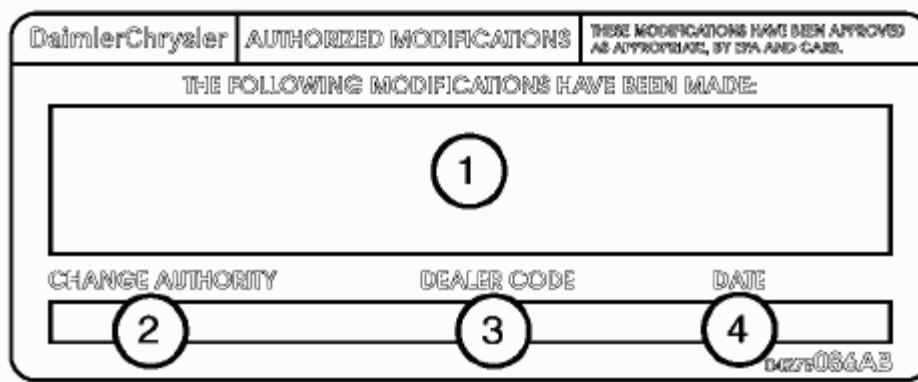

FIGURE 1 - AUTHORIZED MODIFICATION LABEL
9. Type the necessary information on the "Authorized Modification Label" p/n 04275086AB and attach near the VECI label (Fig. 1).